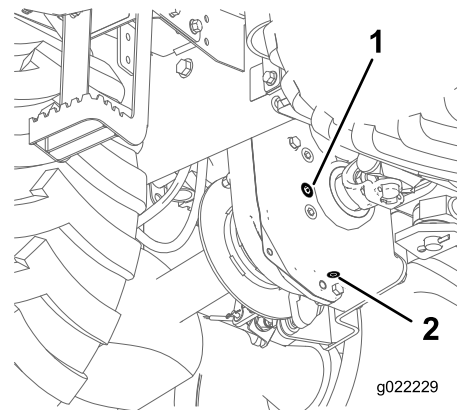

Figure 32
2. Clean the area around the fill plug with a cleaning solvent (Figure 32).